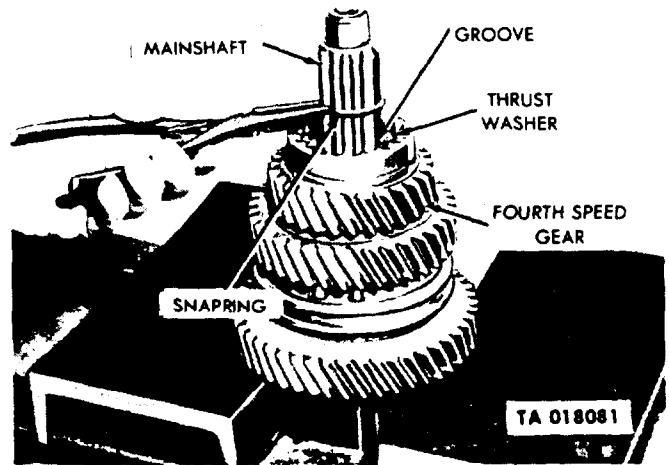

Figure 3-34. Removal of Fourth-Speed Gear.
(1) Remove the snapping and fourth-speed gear thrust washer from mainshaft assembly. (See fig. 3-34.) Slide the fourth-speed gear from the mainshaft.